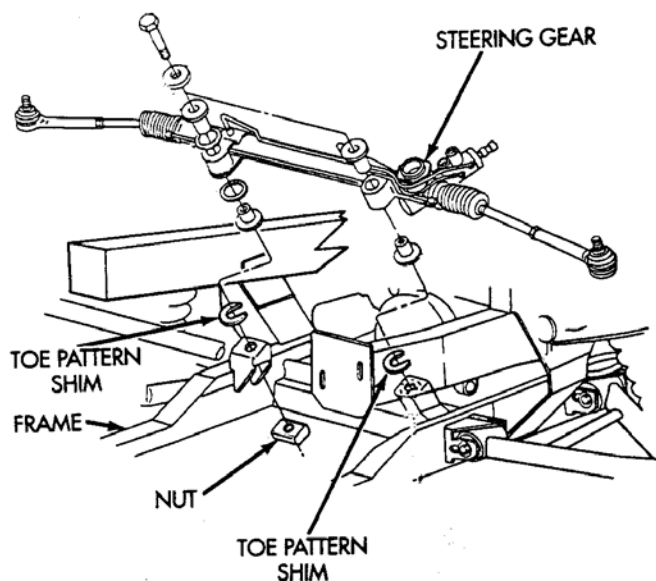

Figure 5
**CAUTION:** There are selective toe pattern shims located between the steering gear mounting bushings and the steering gear crossmember (Figure 5). Using a grease pencil, mark the shims (right or left side) so that they can be reinstalled into their original position.
**NOTE:** The right side steering gear mounting bolt has a tapping plate nut located on the bottom side of the steering gear crossmember (Figure 5). The tapping plate nut must be saved.
20. Lift the left side of the steering gear slightly and place the left side selective toe pattern shims under the steering gear mounting bushing (Figure 5). Then install the mounting bolt. Do not tighten the mounting bolt at this time.
21. Lift the right side of the steering gear slightly and place the right side selective toe pattern shims under the steering gear mounting bushing (Figure 5). Then install the mounting bolt and tapping plate nut.